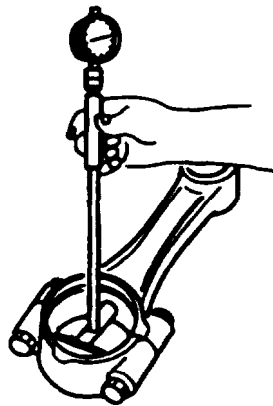

FIGURE 3-89. Connecting Rod Bearing Inside Diameter
- (2) Install bearing end cap and tighten bolts to 61.5 ft-lbs (83.4 Nm).
- (3) Using inside micrometer, measure bearing inside diameter, refer to FIGURE 3-89.